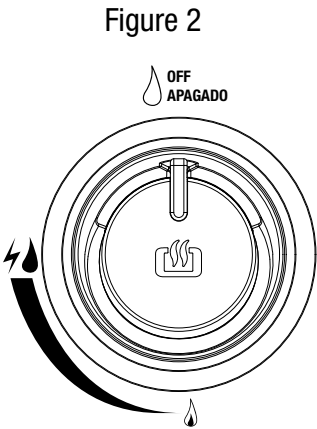

Figure 2
1. Make sure control knobs are in the "OFF" position (Figure 2).
2. Make sure control knobs are in the "OFF" position (Figure 2).
3. All control knobs must be in the "OFF" position (Figure 2).
- 2. Turn all control knobs clockwise to the “⬇️ OFF” position (Figure 2).